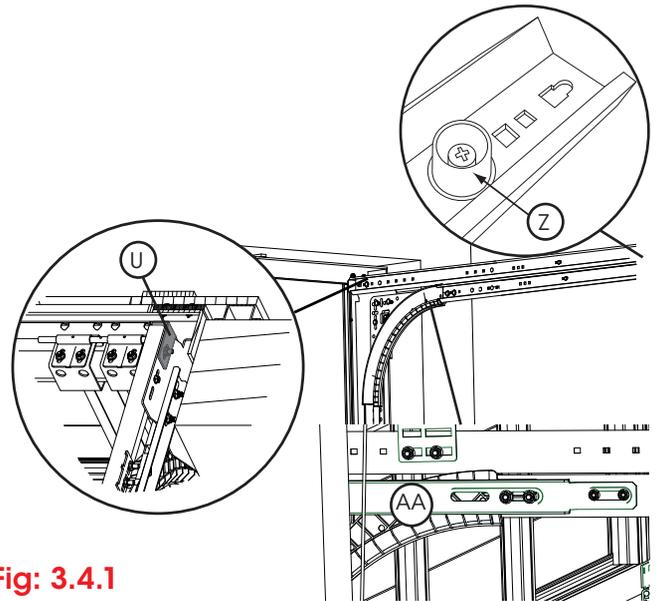

Fig: 3.4.1
- a) Lift the horizontal track (F) into position and secure to the flag bracket using 6 x 5/16 flat head bolts and wiz nuts.
- b) Install the plate stopper (U) from the outside of the top of the flag bracket and through both the top track and the flag bracket using 5/16 flat head bolts as shown in Fig 3.4.1.
- c) Place the horizontal bracket (AA) on each horizontal track as shown in Fig 3.4.1 and install the safety stop (Z) at the end of each **top** horizontal track.